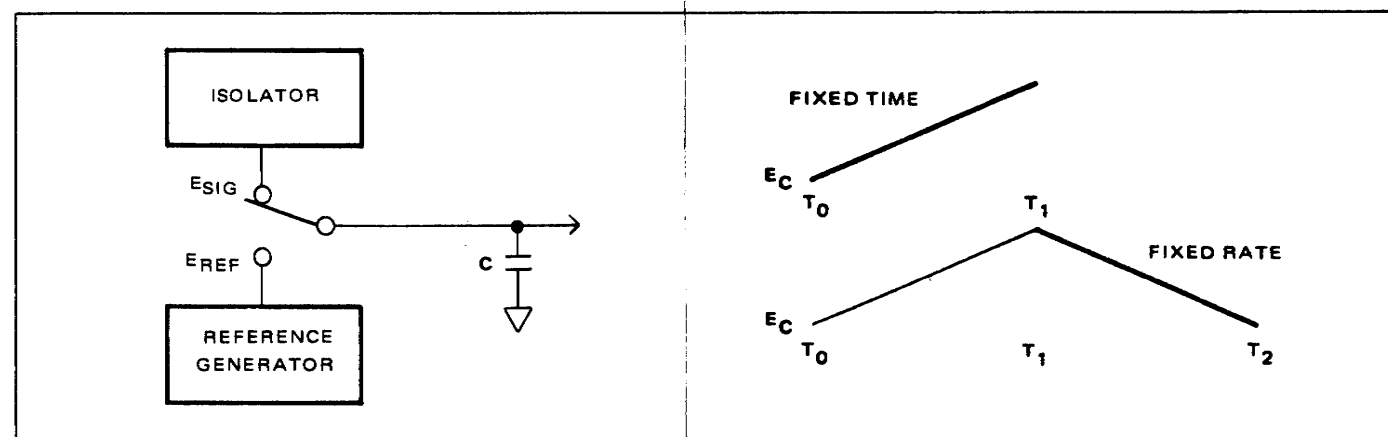

Figure 4.3 - Dual Slope Integration
4.2.5 The integrator is a dual-slope conversion device which charges a capacitor for a fixed time period to a level which is dependent upon the level of the measurement signal (see figure 4.3). The capacitor is then discharged at a fixed rate by switching a reference signal of opposite polarity onto the input of the integrator. As the capacitor discharges it crosses the zero volt level and begins to charge in the opposite direction. A null detector in the integrator circuit senses this zero-crossing and produces a "null-detect" signal. The null detect signal is used by the Timing and Control circuits to stop the measurement counter. Thus, the count value in the measurement counter is a direct digital representation of the measurement signal voltage applied to the instrument.